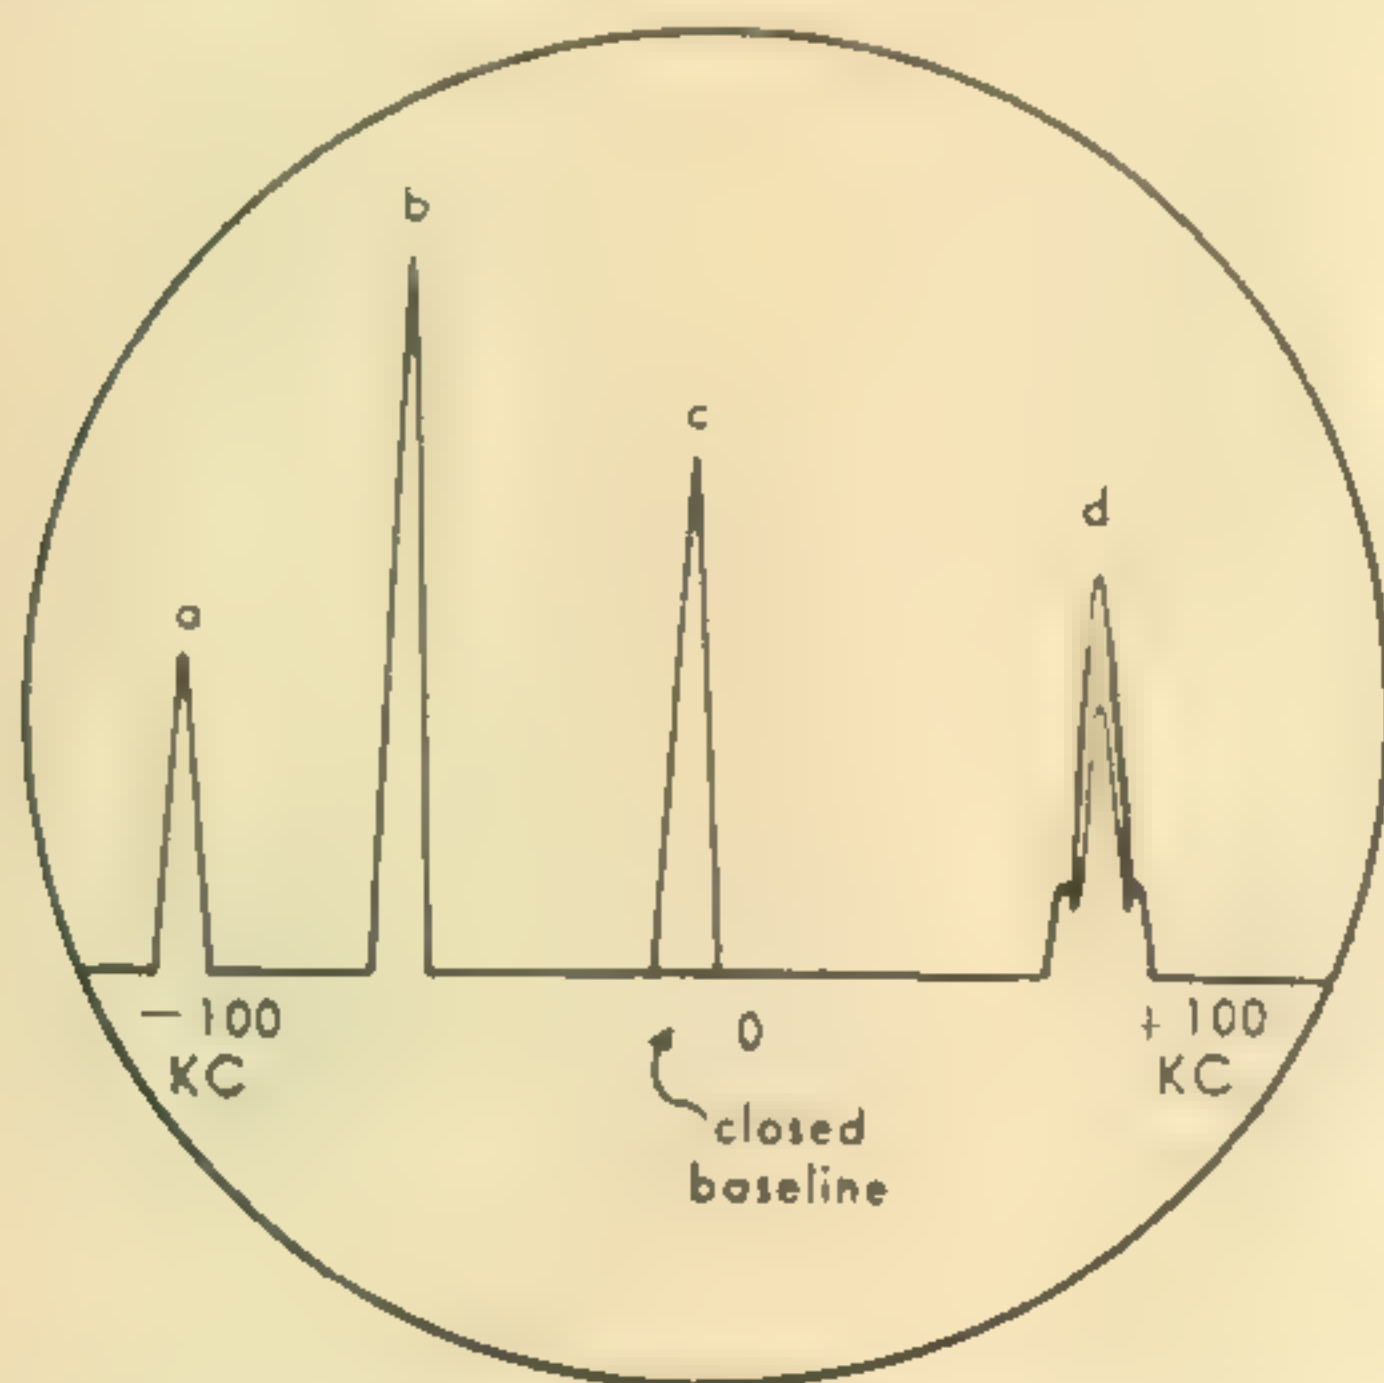

Fig. 1. Four signals appearing simultaneously on the Panoramic screen. Only station (c) will be heard on the receiver
THE "PANORAMIC" concept is full of practical ramifications. This article, intended primarily for the amateur and short-wave listener, deals with one application, the "Panadaptor"—but the reader must not conclude that this represents the only use either in civil or military radio. Technically, "Panoramic Reception" is defined as the simultaneous *visual* reception of a multiplicity of radio signals over a broad band of frequencies. More simply, and especially as applied to the adaptor, Panoramic Reception provides an indication of the frequency, type, and strength of the various radio signals which are present in a given receiver. Deflections or peaks appearing as inverted V's (Fig. 1) on the screen
1. In Fig. 1, (a) is a signal of constant amplitude indicating a steady carrier. The height of the peak shows that (a) compared with (b) or (c) is a weaker signal than the others.
3. In Fig. 1, (c) is a peak which appears and disappears so rapidly that the baseline appears closed beneath the deflection. This type of deflection is produced by a very rapidly keyed c.w. signal. For slower keying, the baseline will appear open and the c.w. signal may be read directly from the screen (*with practice*).
In addition, the various frequencies shown may be compared with reference to each other, or with reference to the receiver tuning dial. As an illustration (still with Fig. 1), let us imagine that the *receiver dial* reads 5,000 kc. Signal (c), the c.w. station discussed above, appears immediately above the zero on the scale. This scale reading indicates that the frequency of the signal (c) is that indicated on the dial of the receiver, or 5,000 kc.